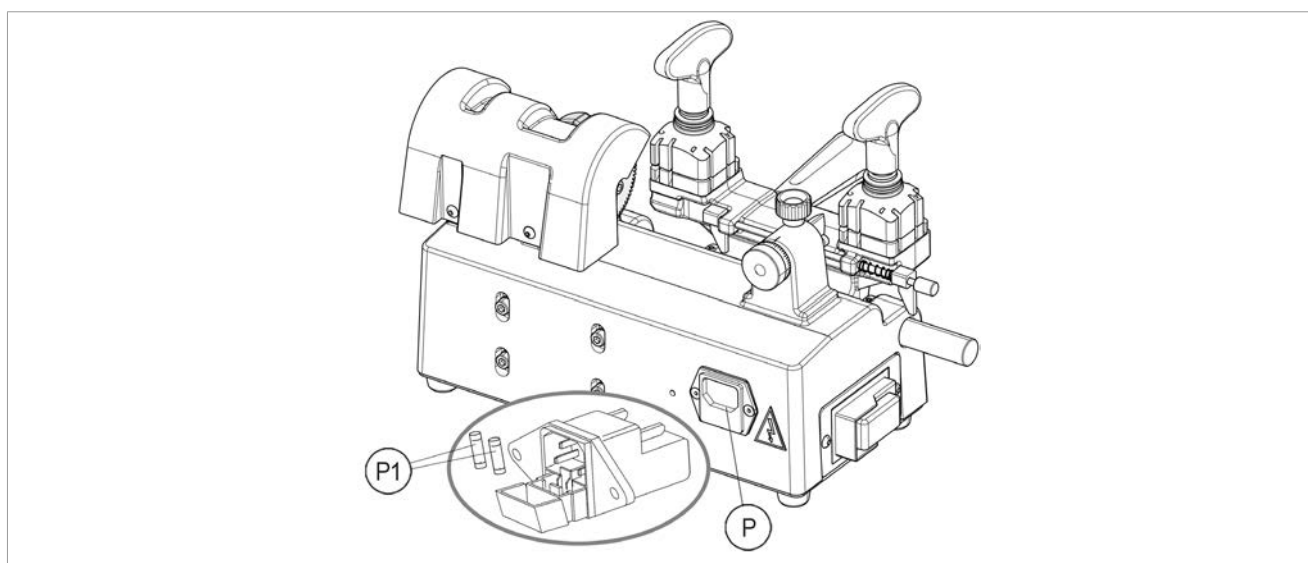

Fig. 34
- 1) Open the fuses box from the key-cutting machine socket (P) (Fig. 34).